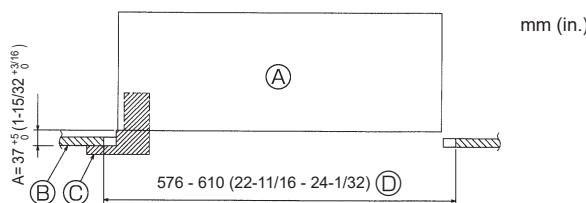

Fig. 10-2
10.3. Preparing to attach the grille (Fig. 10-2)